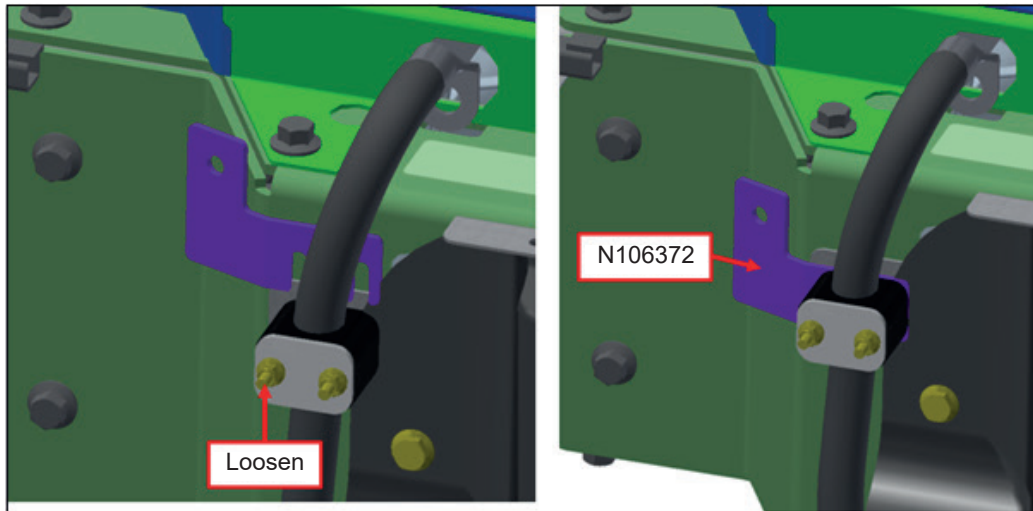

Figure 6 - Installation of New Support Mount
- 1.11. Install (slide-in) bracket N106372 (see figure 6).